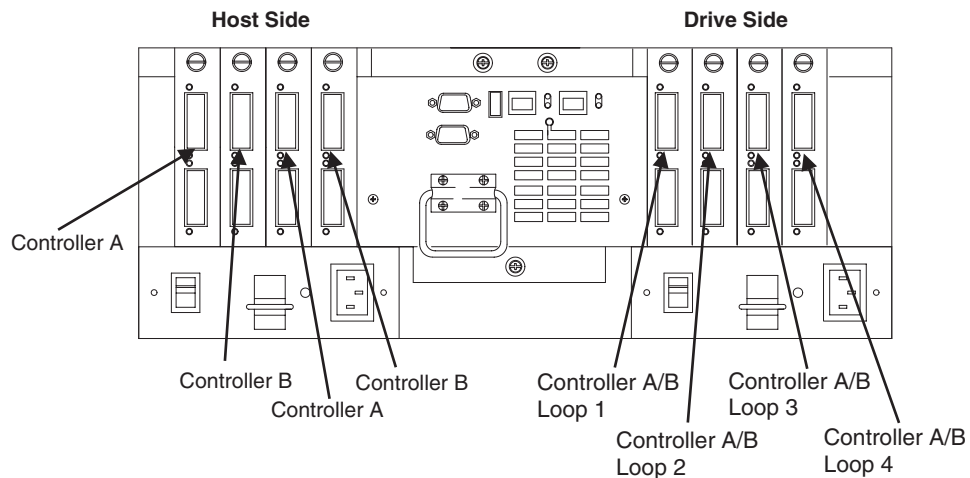

Figure 140. FASt500 controller connection locations
Figure 140 shows the locations of the controller connections in a FASt500 or FASt700 Fibre Channel controller unit.
**Note:** In Figure 140, a FASt500 controller unit is shown.